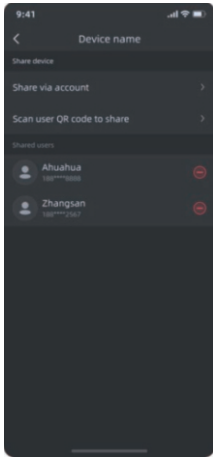

Figure 2
- 2)Figure 2: Supports sharing devices through accounts or QR codes;Display shared users.